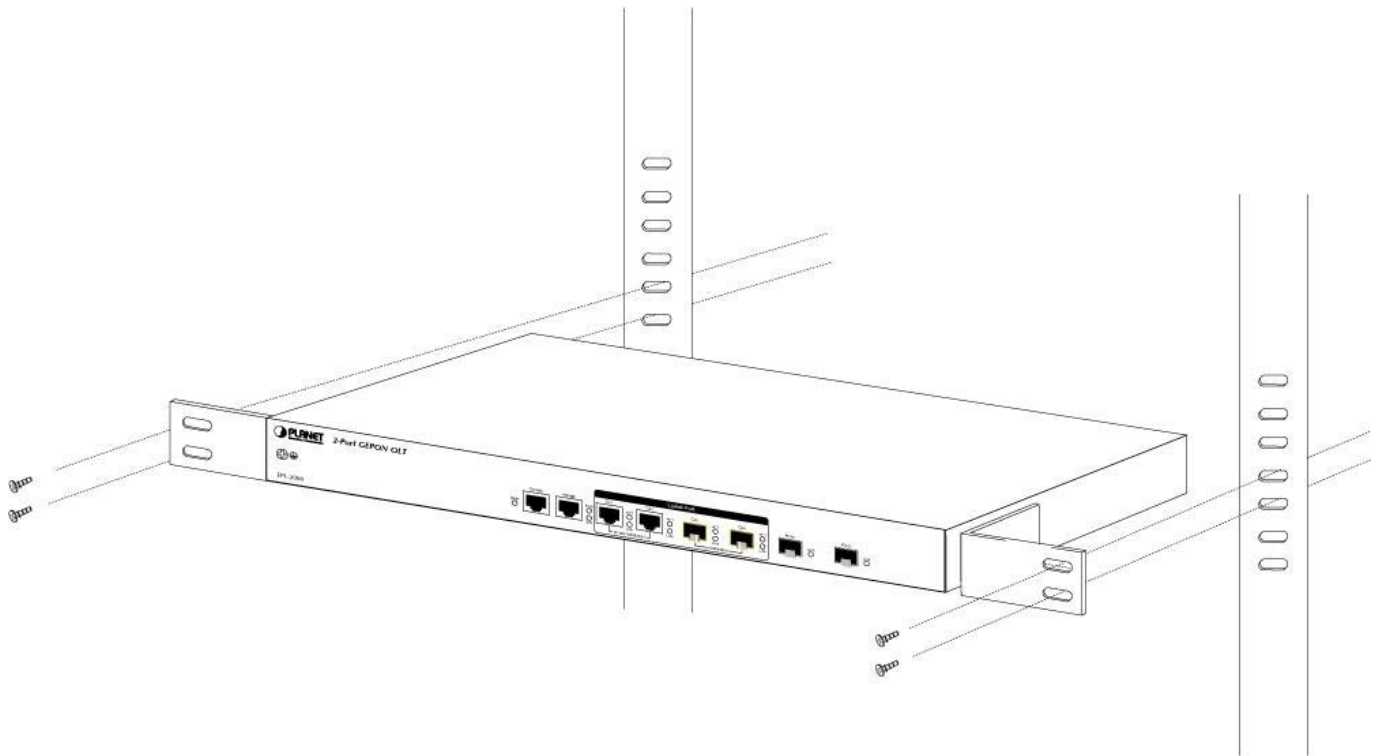

Figure 2-5 Mounting the GEPON OLT on a Rack
**Step 5:** After the brackets are attached to the GEAPON OLT, use suitable screws to securely attach the brackets to the rack, as shown in Figure 2-5.